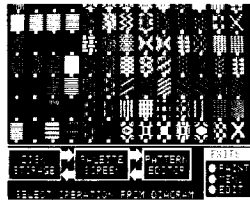

Figure 6
that location as well as on the small display in the upper left-hand corner. This small display is what your pattern will look like in actual use and provides indications whether the pattern will be correct. You exit to the main display to place your pattern on the palette (see Fig 6). Figure 6 is the entry display for PATTERN EDITOR and shows the Info-Flow (TM) diagram at the bottom. Initially the palette is empty of patterns but using the Info-Flow and the pen you can load a palette from the disk for editing or save a completed palette. To use Info-Flow you touch the arrow or dot indicating the action you want. Filenames are prompted for when required. Switching from palette display to the editor display is a matter of using the Info-Flow to indicate your choice. If you are moving a pattern to the editor for changes, the program will prompt you to indicate which pattern. You either touch the pen to the pattern or to the white dot below the pattern. When pattern creation is completed, or if you have previously made a palette, you can go to PENPAINTER from the Info-Flow or PATTERN EDI-